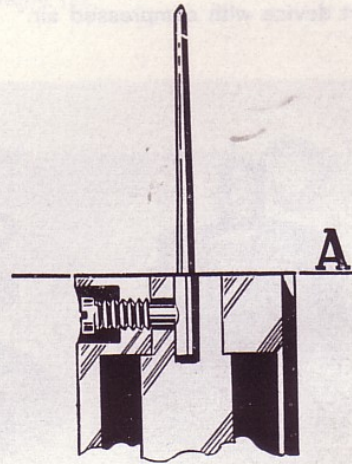

Fig. 92. Fitting the metering needle
2. Fit the metering needle (10), see Fig. 92. The cylindrical section of the needle should be flush against the valve.